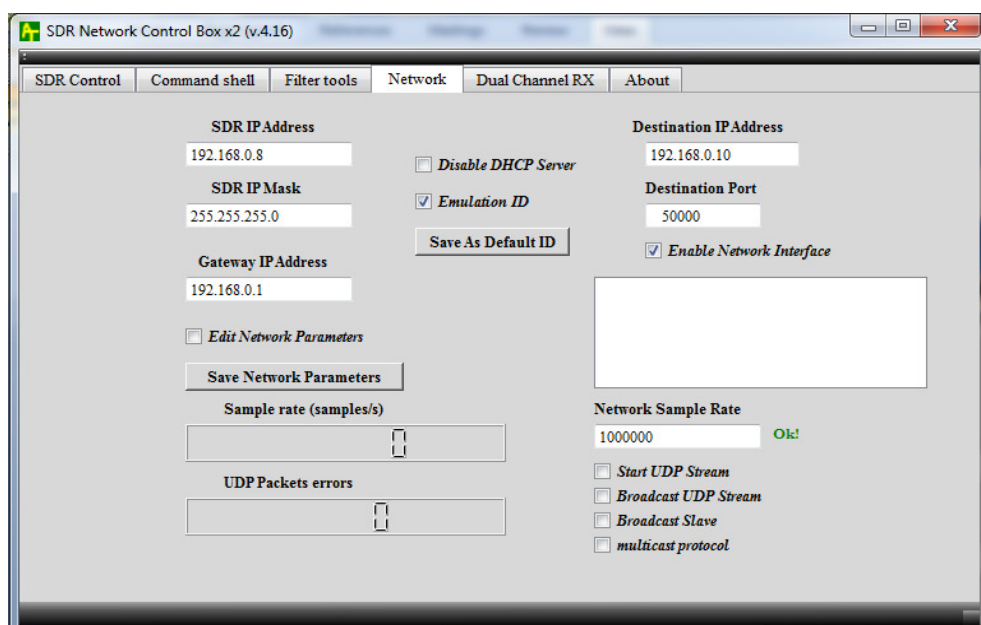
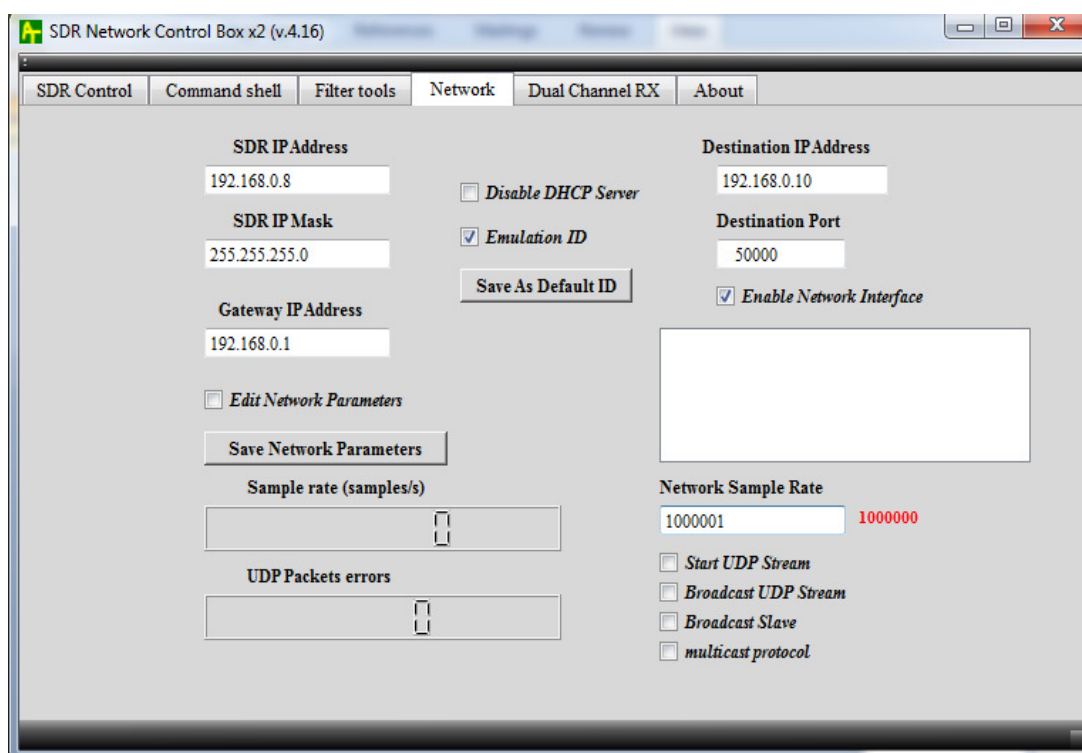

Figure 6 Network tab (correct sample rate value).
Figure 7 Network Tab (non correct sample rate value)
“Network” tab screen shot is shown on **Figure 6.** and **Figure 7.** there is concentrated all parameters that are needed to provide network functionality of SDR Network Control Box when it is used as Winrad plug-in, when receiver AFEDRI SDR-Net is connected to PC using network interface. You can see screen shot of “Network” tab on **Figure 6.** The functionality of all user interface elements (tabs, text windows, check boxes) that located on this tab very depends on type of connection between PC and SDR - USB or Network.
- 3.3.3. Text Box **“Network Sample Rate”** - is used to change current sample rate of SDR when network connection is used. The new value will be sent to AFEDIR SDR-Net immediately after **“Enter”** button is pressed. Any sample rate value that was entered in this window is checked for correct value that can be achieved in AFEDRI SDR-Net hardware, the real value depends also on **“Main Clock Oscillator frequency”** so it has to be corrected if **“Main Clock Oscillator frequency”** was changed due to calibration procedure (see paragraph 3.2.12). If sample rate value is correct, application will show green colored **“Ok”** message on right side of the **“Network Sample Rate”** text window (see figure 6.). If sample rate value is not correct, application will show red colored precision value of sample rate. So user can correct sample rate accordingly.